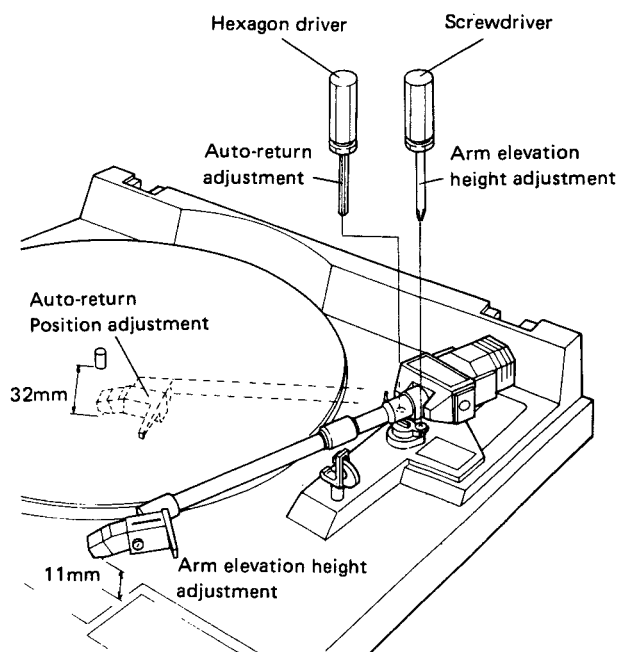

Fig. 12-3 Arm elevation height adjustment and auto-return adjustment
5. Stop turning the adjustment screw at the point at which there is a space of 32 mm between the cartridge stylus and the center shaft. (Fig. 12-3)
2. Adjust the screw under the turntable so the stylus is 11 mm above the panel. When the adjustment screw is turned counterclockwise, the stylus rises. (Fig. 12-3)